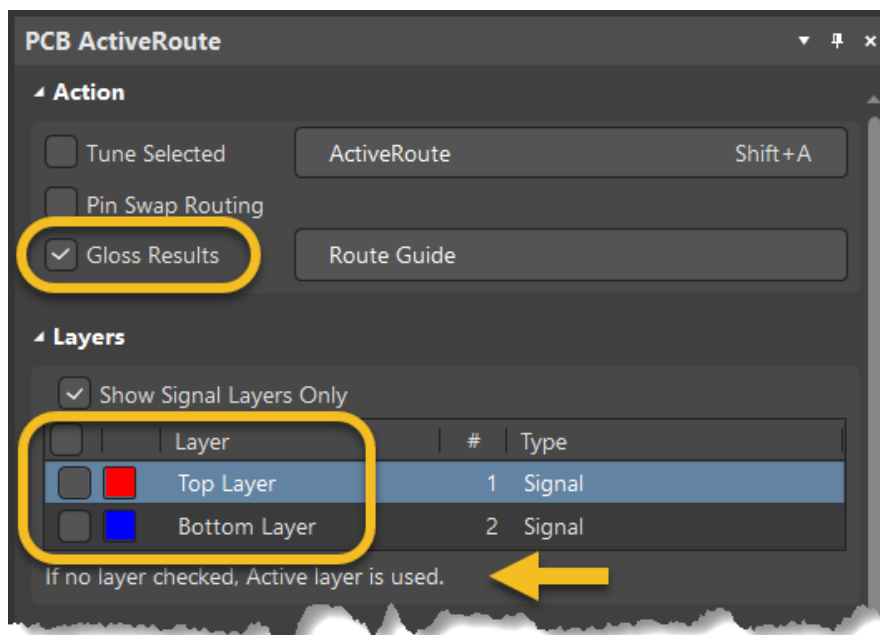

Figure 6. ActiveRoute with Gloss
- Activate the option **Gloss Results**, Figure 6.